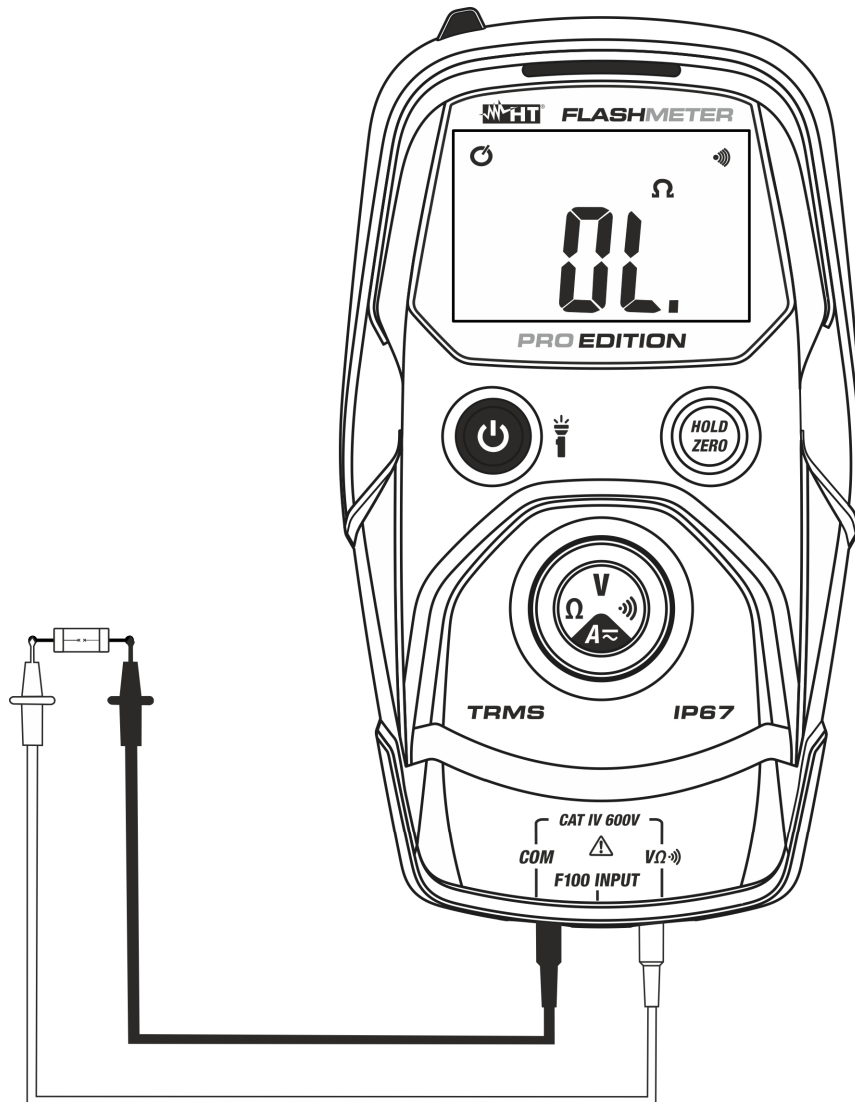

Fig. 6: Use of the instrument for Continuity test
4. Position the test leads in the circuit to be measured (see Fig. 6). The continuity buzzer activates for  $R < 50\Omega$